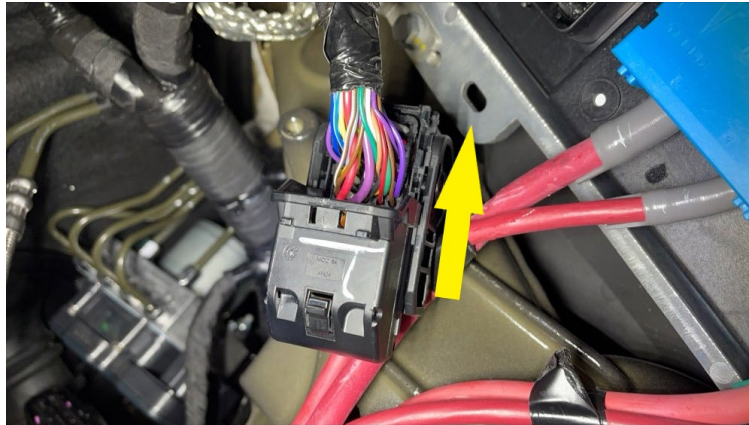

Figure 31
23. Slide the rear cover onto connector X025, engaging the tabs (Figure 31).